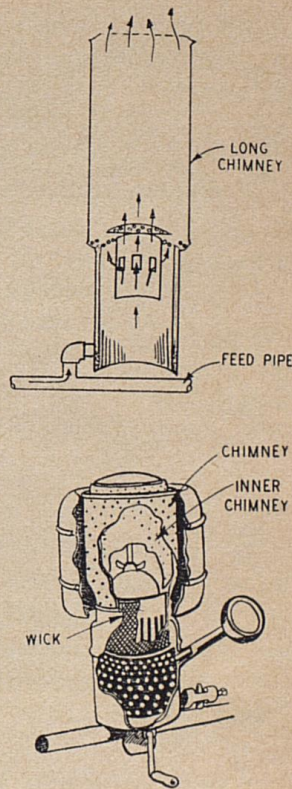

Fig. 54
3. Use a small brush or paper napkin to clean wicks, Fig 54. Do not cut with scissors. If wick has a beveled edge, this should be carefully maintained. If wicks become very dirty, remove and boil in a solution of washing soda (sal soda). Rinse and dry thoroughly. In replacing a wick, adjust it level with the top of the outside of the wick tube.
Burners and Chimneys: (Fig. 54). Boil perforated sections in soda